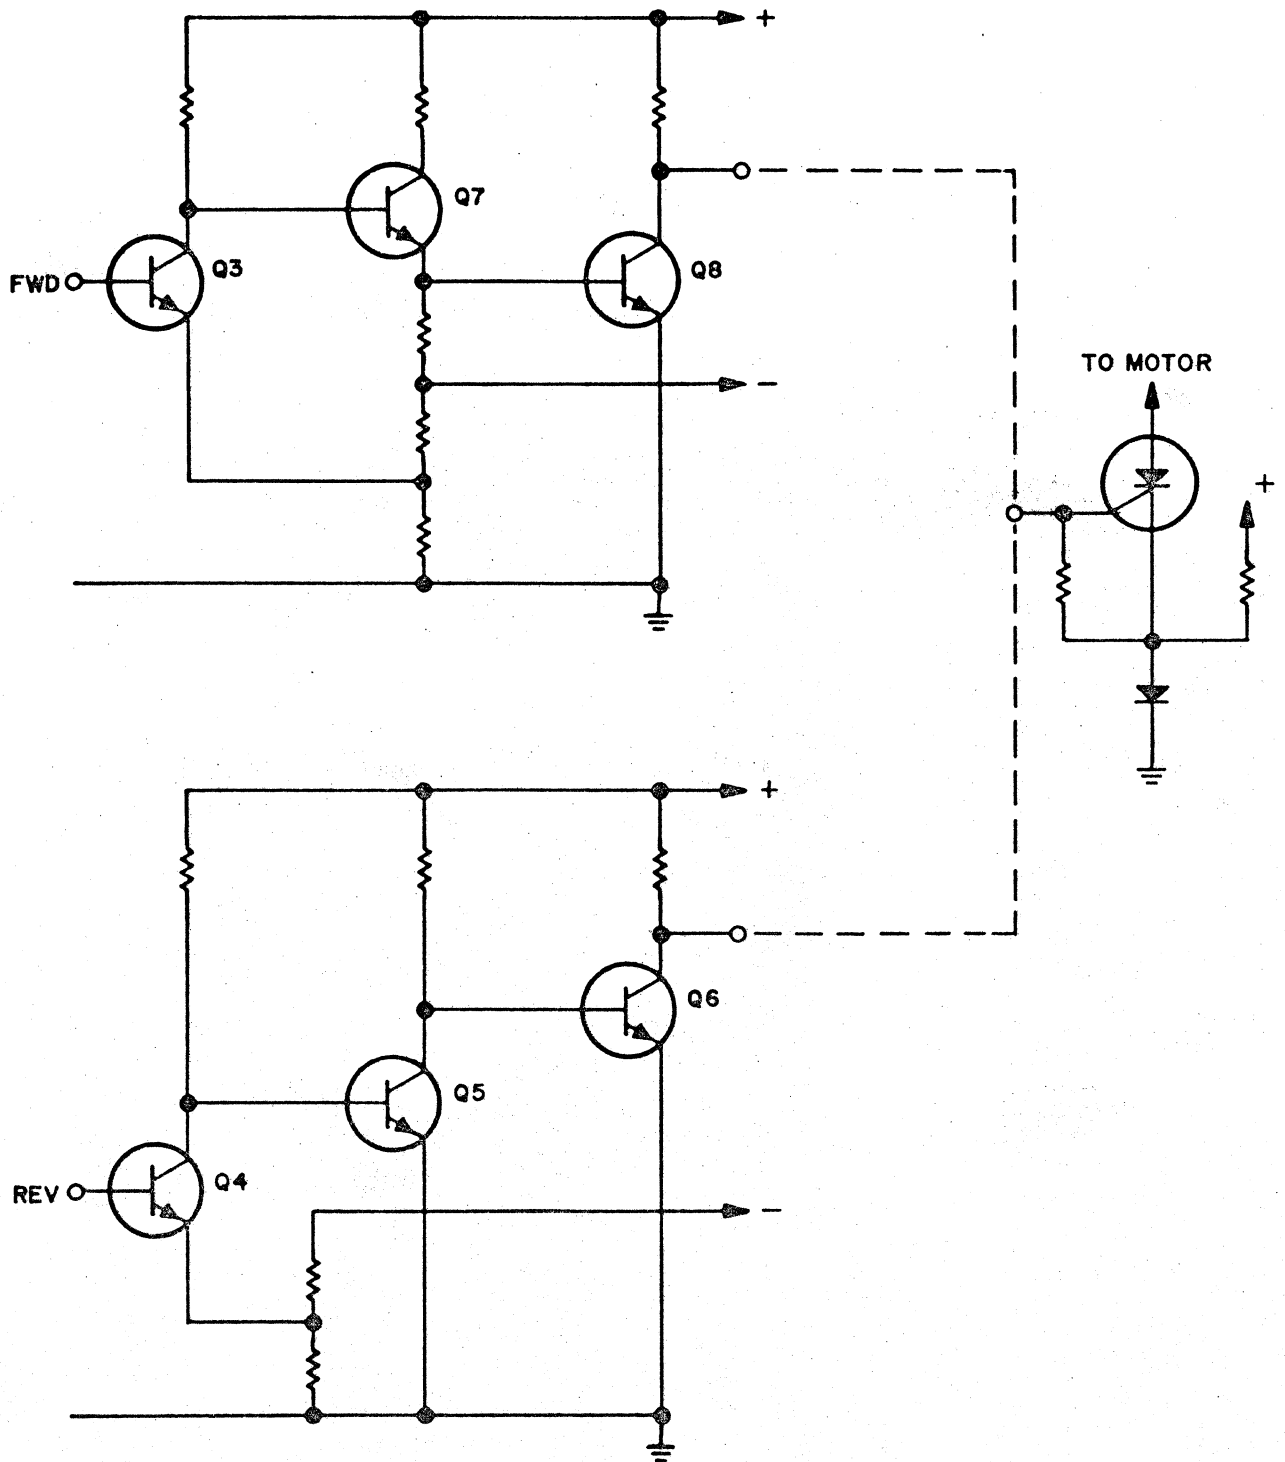

Figure 4-4
The reel servo circuitry is mounted on the reel servo control (RC). The input to the reel servo control system consists of five signals: ramp output, reel tachometer, forward loop sense, reverse loop sense, and rewind. These five inputs are summed in various combinations in four summing networks: forward drive network, forward inhibit network, reverse drive network, and reverse inhibit network. The outputs of the summing networks are applied to the forward and reverse drive amplifiers (Figure 4-4). The forward drive amplifier consists of three cascaded stages: an amplifier, an emitter follower, and another amplifier. The reverse drive amplifiers consists of three cascaded amplifiers. In this way a phase shift occurs in the reverse drive amplifier that does not occur in the forward drive amplifier. This properly polarizes the outputs to drive the windings of the reel motors. An inhibit bias is applied directly to each amplifier to prevent reel creep or oscillation when no signal is applied. Driving power is applied to the reel motors only when it is necessary to drive the reels. When driving power is not required, the reels are allowed to coast. Normal counter-torque and drag friction prevent the tape from unwinding from the reel.